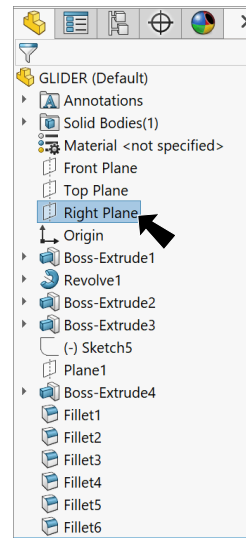

Fig. 61
Step 1. **Ctrl click Right Plane**  in the Feature Manager to select plane, **Fig. 61**.